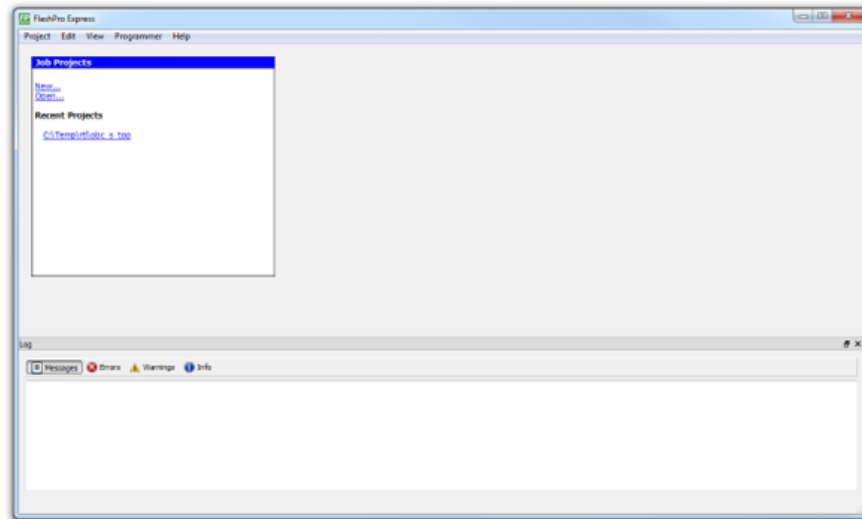

Figure 11.1 - Startup view of FlashPro Express
1. Connect the FlashPro5 programmer via the 104470 FPGA programming cable assembly to the JTAG-RTL connector in Figure 11.1.
2. Connect the power cables according to Figure 11.1.
4. Start the FlashPro Express application, click “Open...” in the “Job Projects” box (see Figure 11.1) and select the supplied .pro file.